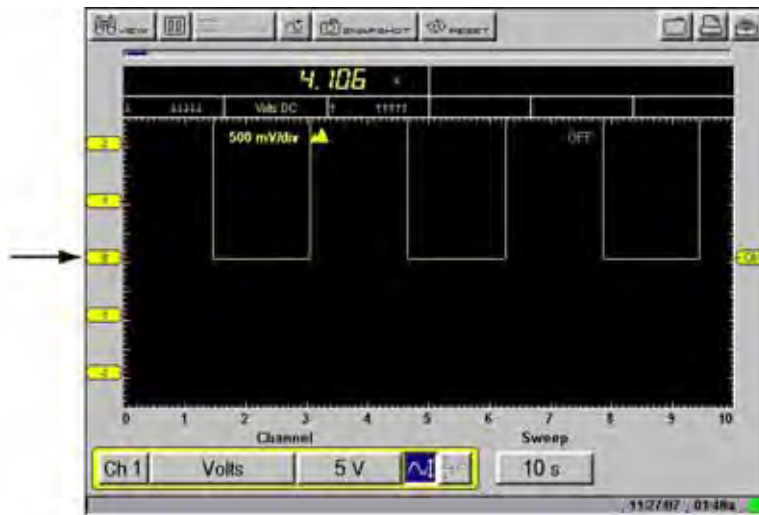

Figure 5-8 Sample zero position
2. Press the up b or down d arrows as needed to move the zero point (Figure 5-8).